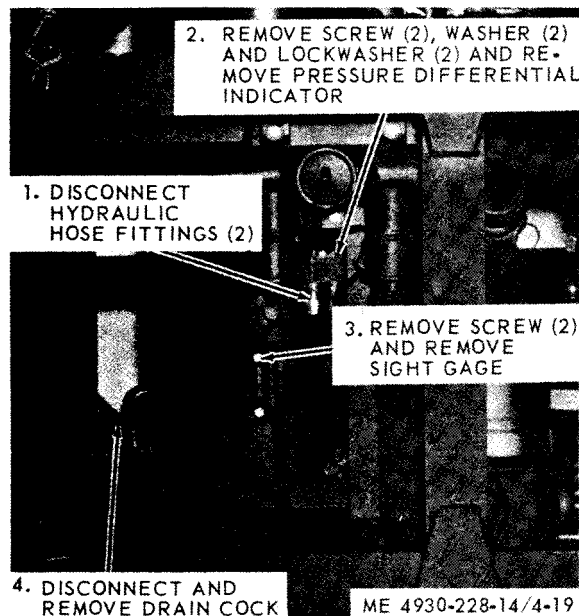

Figure 4-19. Sight window, differential pressure indicator, and drain cock, removal.
- (1) Drain the filter / separator.
- (2) Refer to figure 4-19 and remove the sight window, differential pressure indicator, and draincock.
- (1) Clean and dry all parts thoroughly.
- (2) Inspect the sight window for cracks, breaks, and transparency. Inspect the ball for damage.
- (3) Inspect the gasket for breaks.
- (4) Inspect the differential pressure indicator for signs of external damage.
- (5) Inspect the petcock for cracks, damaged threads, and other damage.
- (6) Inspect the hoses for cracks, breaks, abraided areas, and other damage.
- (7) Replace all defective parts.
c. Installation. Refer to figure 4-19 and install the sight window, differential pressure indicator, and draincock in reverse order of removal.